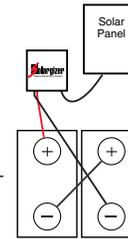

Fig. 2
For two (2) 6-volt batteries connected in series to equal 12-volts, follow steps 1 through 2 above. On step 3 connect the positive wire to the positive terminal on Battery 1 & the negative wire to the negative terminal on Battery 2 (see Fig. 2).
To install, Follow steps 1 through 2 under the Industrial 12-Volt Solargizer section. On step 3 connect the positive wire to the positive terminal on Battery 1 & the negative to the negative terminal on the last battery in the set (see Fig. 2 for an example